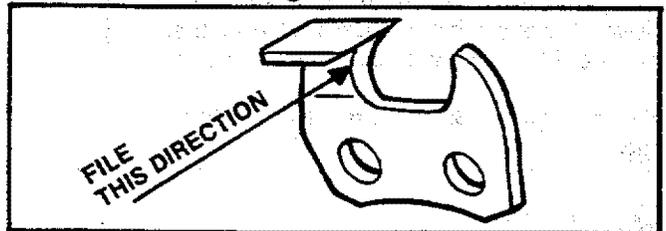

Figure 38
- c.) File from inside toward outside of cutter, straight across in one direction only. Use 2 or 3 strokes per cutting edge. Figure 38.